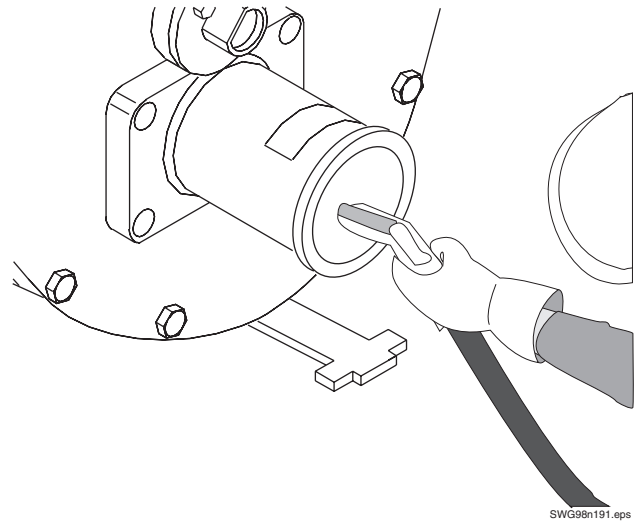

Figure 28
- Spray water into the opening, washing the end of the rubber ram, the material cylinder, the rock valve, and the outlet pipe (Figure 28). Continue washing until the water that leaves the valve is clear and clean. Visually inspect that no rocks, sand, or clumps of concrete remain. If there is still material inside the valve, continue spraying water.